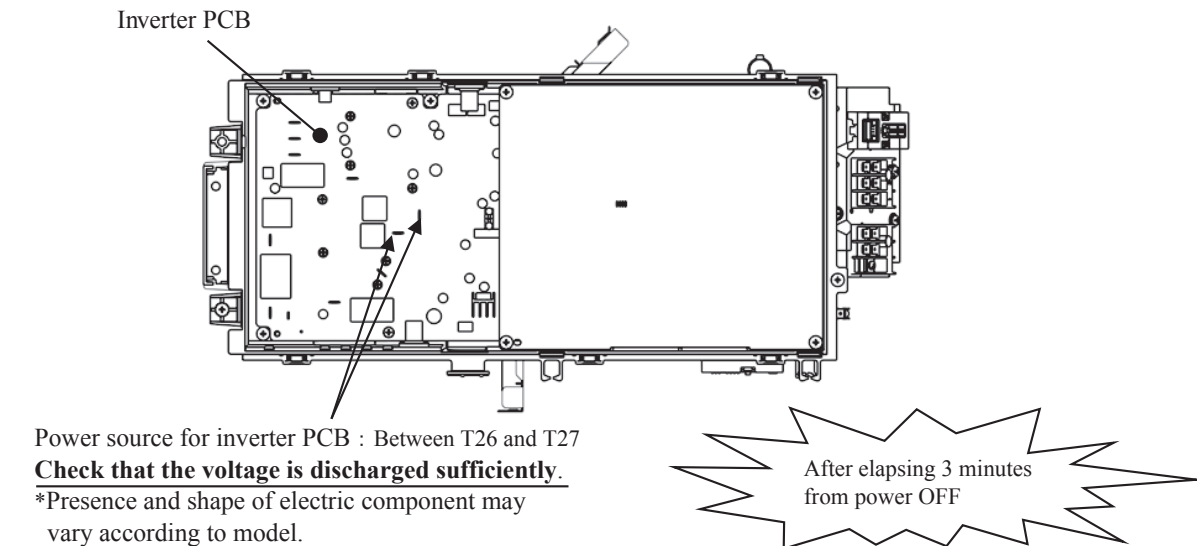

Fig.2 Voltage measurement points
In the situation that harnesses are connected to inverter PCB **be sure to measure voltage (DC)** between T26 and T27 on inverter PCB, and **check that the voltage is discharged sufficiently.** (Refer to Fig.2).